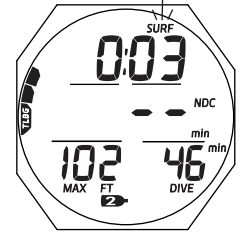
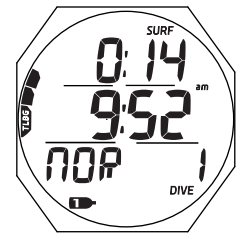

Fig. 24B - NORM DIVE MAIN
Fig. 24C - NORM SURF MAIN
Upon surfacing during dives, the Dive Main will remain on display for the first 10 minutes with Surface Interval time (SI) in place of Depth (Fig. 24B) after which the post dive Surface Main will be displayed (Fig. 24C).